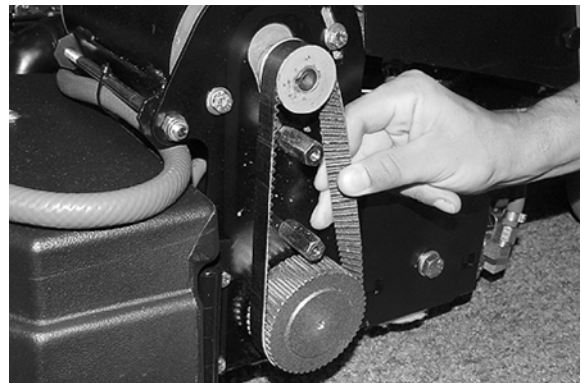

FIG. 41
9. Periodically check the belt tension on the two brush motors. Tighten the belt if you're able to twist it beyond 90° at midpoint (Figure 41).